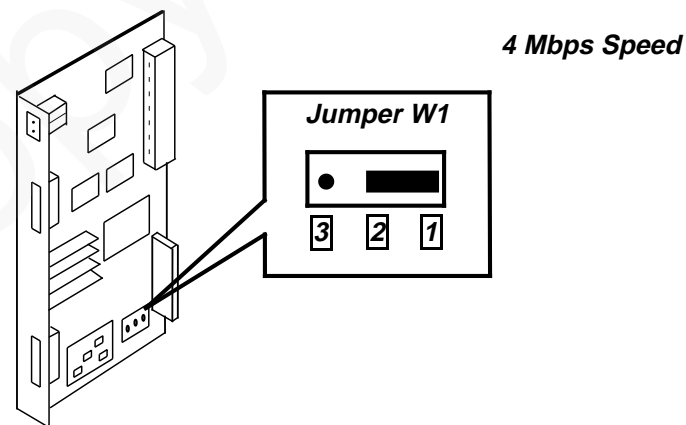

Figure 6 Data Rate Selection
11. Locate the jumper W1 on the Fax Server and move the jumper to the 4 Mbps position (Refer to figure 6).